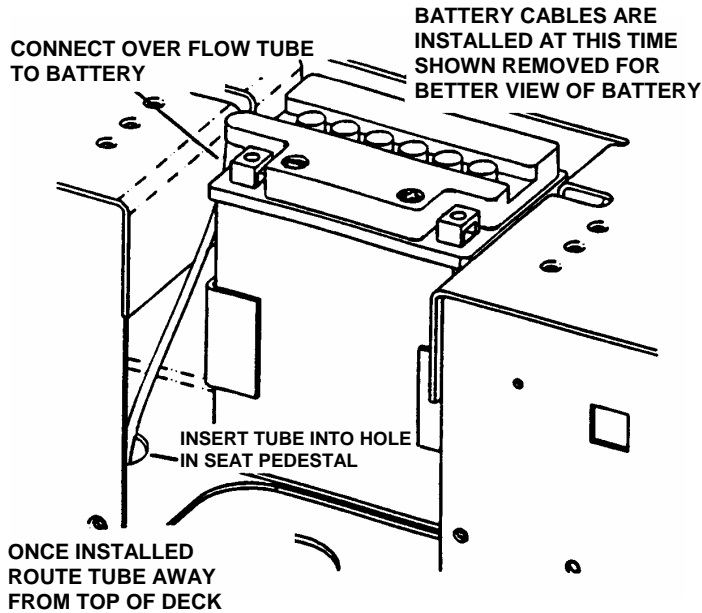

FIGURE 2
E. Connect over flow tube and route as shown in Figure 2.